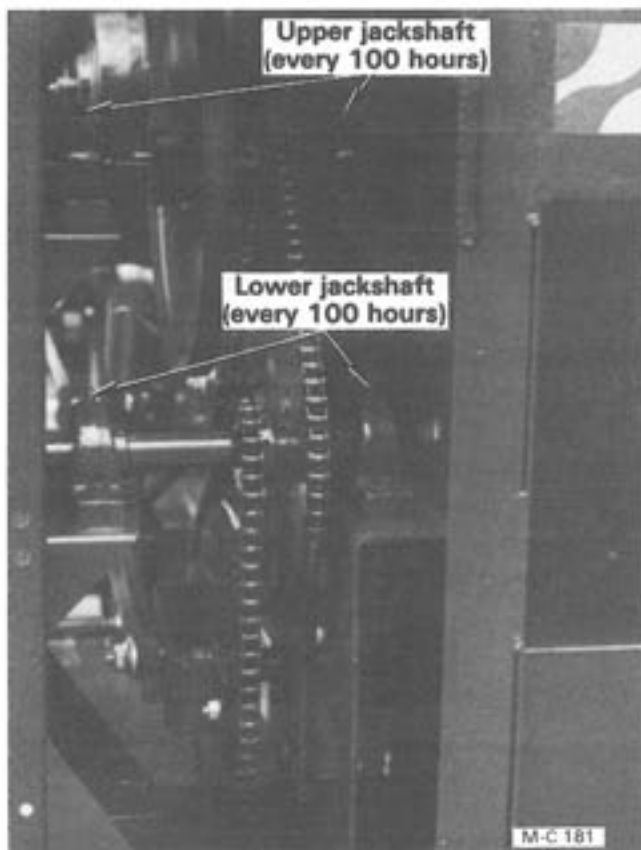

Figure 17
3. **Every 100 hours** - Lubricate the 4 bearings on the reduction drive jackshafts, see Figure 17, the unloading auger front bearing and